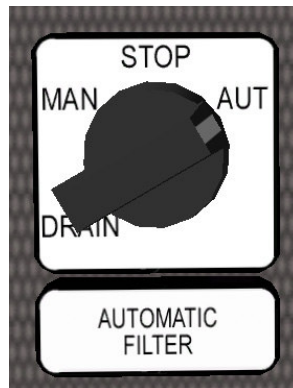

Fig. 27. Automatic Filter switch
2. Set automatic filter switch in "auto" position (fig. 27). In this position the filter is hard wired to start when the respective pump is started (supply pump if filter is after the supply pumps, or circulating pump if filter is after the circulating pumps).